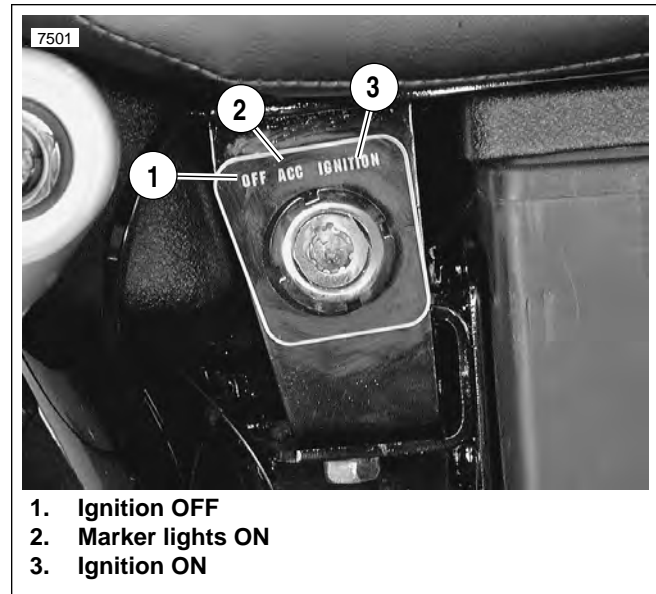

Figure 3-7. Ignition Switch
- See Figure 3-7. “Key ON” means that the ignition key is turned to ON and the engine stop switch is set to RUN (although the engine is **not** running).